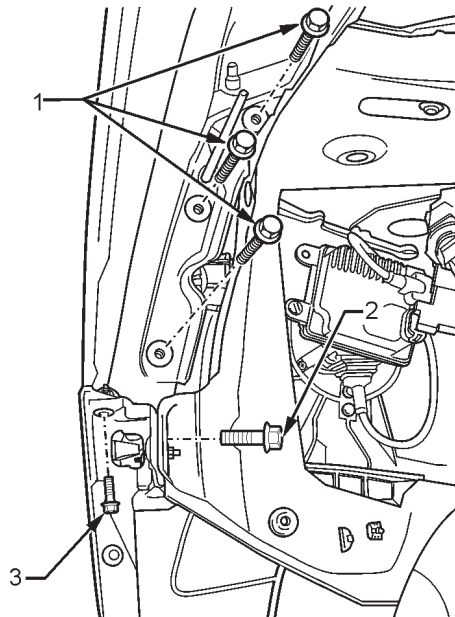

FIGURE 44
22. Use a 10mm socket to remove the three horizontal forward facing bolts (1) and the outward facing bolt (2) from the bracket on the side of the fascia.
23. Remove the 7mm upward facing bolt from the bracket (3).
25. Disconnect the fascia wiring harness (1) from the vehicle harness (2) on the RHS of the vehicle. Remove the fascia from the vehicle. Refer to figure 44.